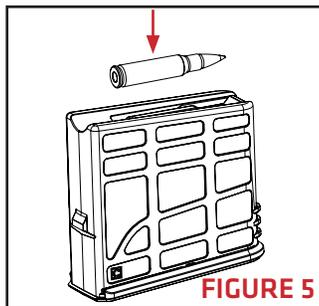

FIGURE 5
2. Load no more than 10 cartridges into the magazine by pushing the round straight down against the magazine follower (FIGURE 5).